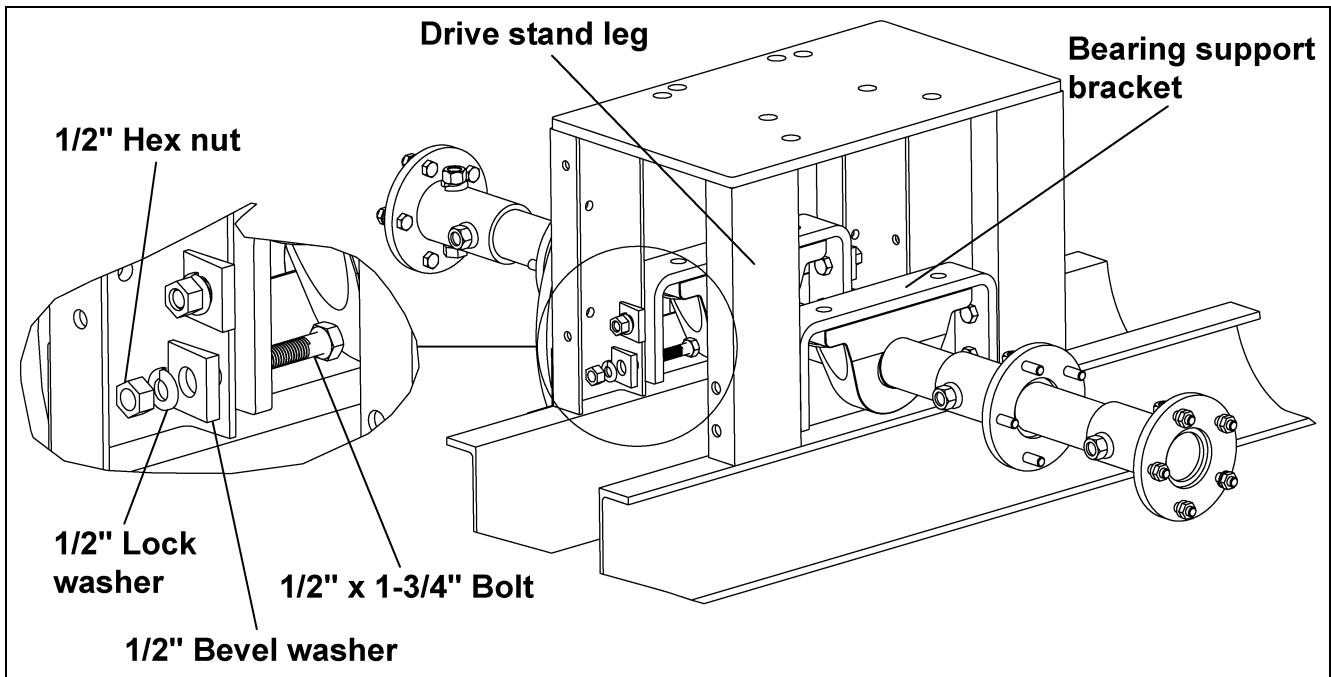

Figure 5J
- E. Bolt the bearing support brackets to the legs of the tractor drive stand using 1/2" x 1-3/4" bolts, 1/2" lock washers, 1/2" bevel washers and 1/2" hex nuts. (See Figure 5J.)